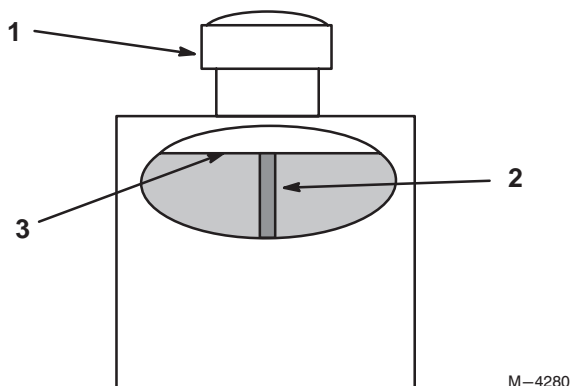

Figure 9
- Clean area around filler neck of hydraulic tank (Fig. 9).
- Remove cap from filler neck. Look inside to check if there is fluid in the reservoir (Fig. 9).
Note: Fluid level should be to the top of the baffle when fluid is warm (Fig. 9).